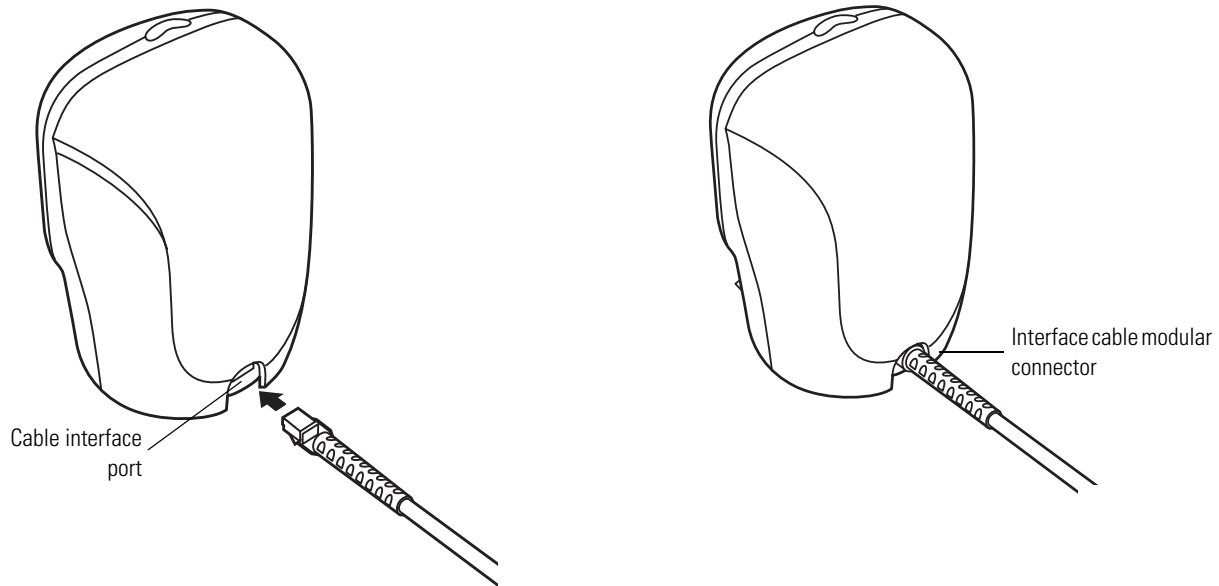

Figure 1-2. Installing the Interface Cable
2. Plug the interface cable modular connector into the interface cable port on the rear of the LS9203 (See Figure 1-2.)